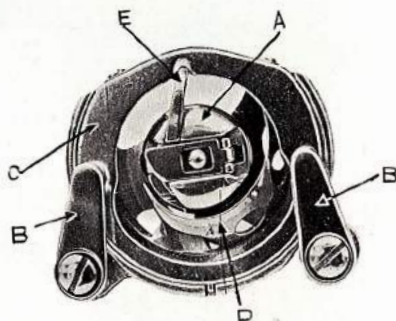

Fig. 37
CLEANING AND OILING THE SHUTTLE (See Fig. 37 and 38)
2. Remove bobbin case (A , Fig. 37).
3. Turn the two shuttle race cover clamps (B) outward and remove the shuttle race cover (C) and shuttle body (D).